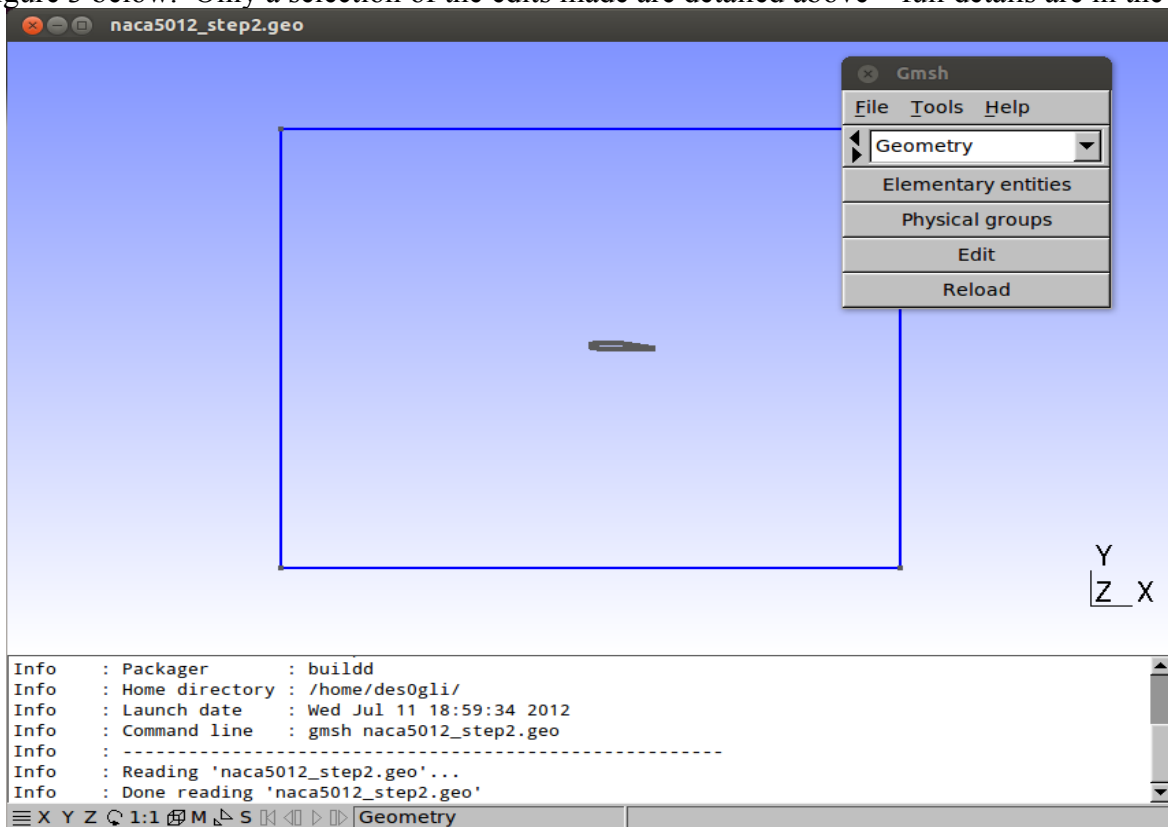

Figure 3: The Geometry Fully Defined
- A full example is found in `naca5012_step2.geo` the result of which should look like Figure 3 below. Only a selection of the edits made are detailed above – full details are in the file.